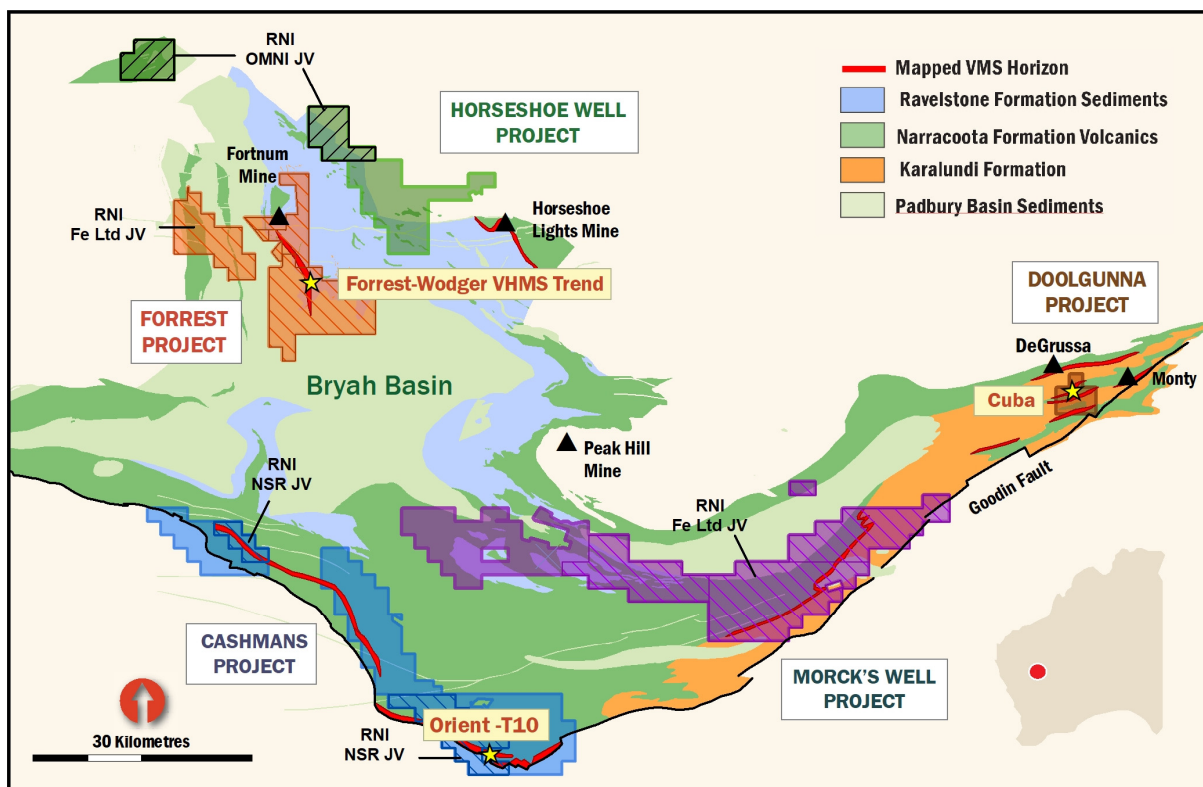

Figure 3: Auris's copper-gold exploration and mining portfolio with highly prospective target locations
Auris Minerals Ltd (ASX:AUR) is pleased to announce it has received all remaining assay results from the first phase of RC holes (WDRC001-005) drilled at Wodger, located in Western Australia's Bryah Basin (Figure 3) and continues to be encouraged by further broad, high grade zones of mineralisation.
Detailed logging and analysis of WDR001 to WDR004 showed that the copper mineralisation in the form of both malachite (oxide copper mineralisation in the form of stringers) and bornite was hosted within quartz carbonate veining, interpreted to be on the margins of the mineralised system (Figure 3).
1. The Forrest Project tenements (Figure 3) have the following outside interests: